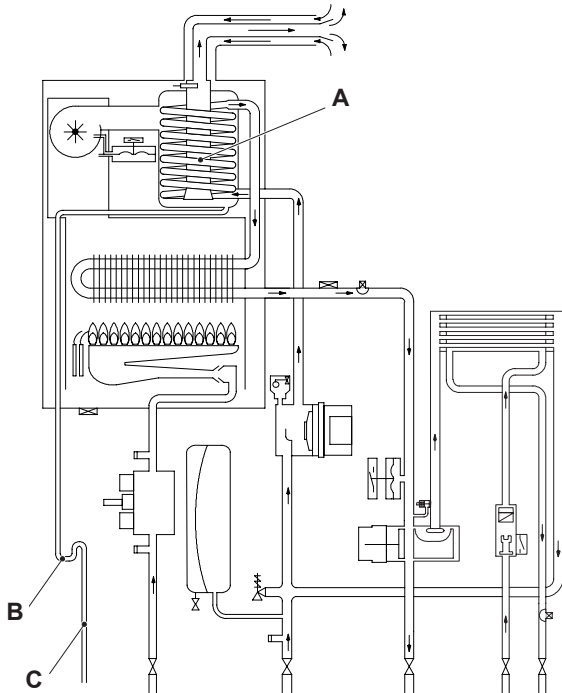
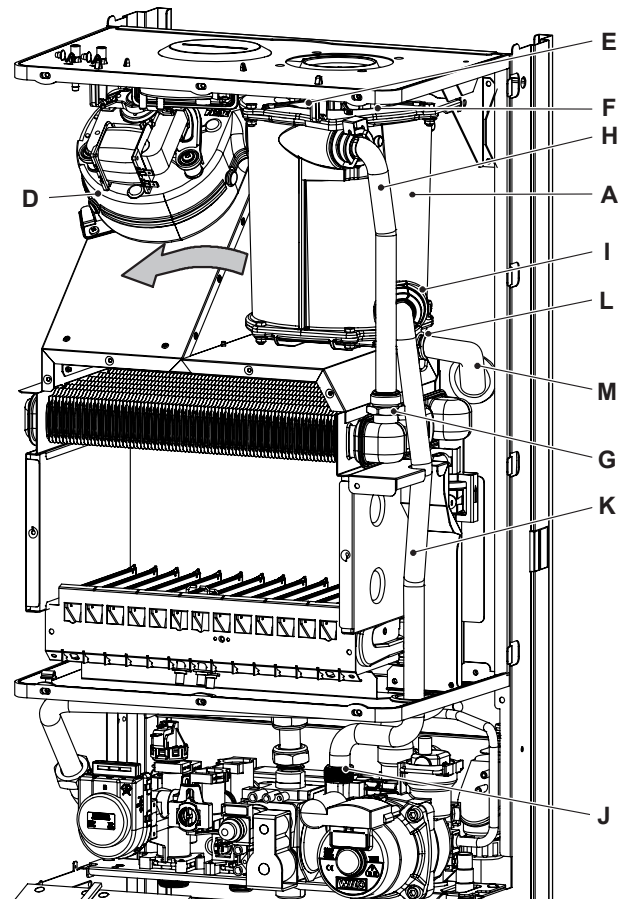

Figure 6.1
Figure 6.2
The return water flows through the condensing heat exchanger A in Figure 6.1 and Figure 6.2.
- 3 Remove the fan D in Figure 6.2 (see section "Removal of the Fan" page 40).